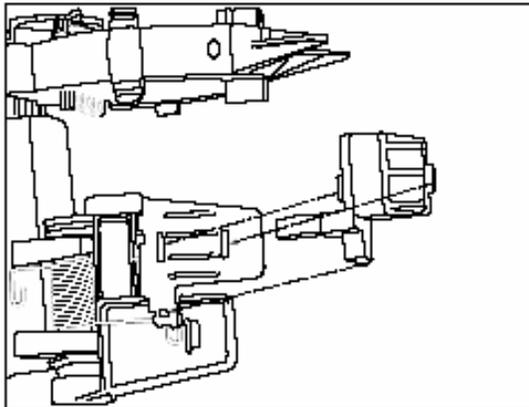

Figure 5. Remove clamp pads attached to each clamping arm on a mechanism where cable diameter exceeds 1".
2. For applications where the cable diameter is less than 1", leave the clamp pads attached to the clamp arms. On installations where the cable diameter exceeds 1", remove the pads that are attached to each clamping arm. Removing the pads will allow the clamping mechanism to properly attach to larger diameter cables. (See Figure 5.)